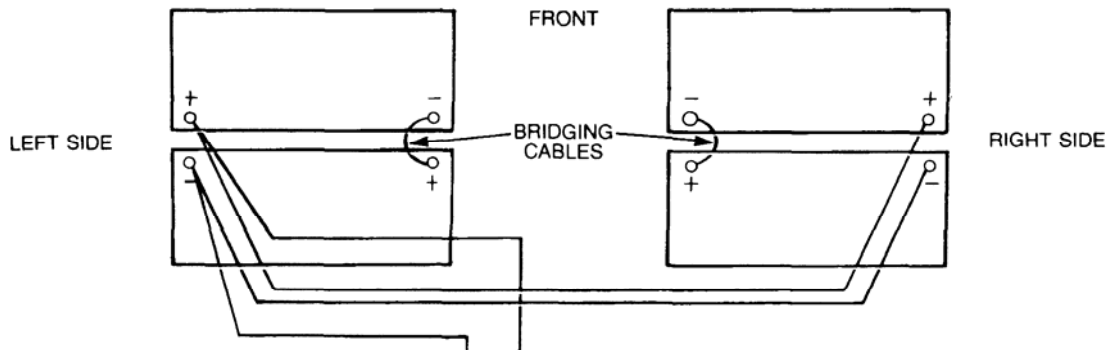

Figure 5 Batteries Installation
- a. Disconnect the batteries, negative terminals first, (refer Figure 5).
Ensure that the batteries are installed correctly (refer Figure 5).